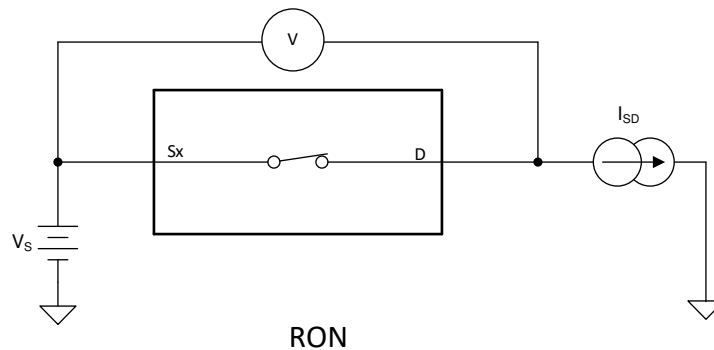

Figure 7-1. On-Resistance Measurement Setup
The on-resistance of a device is the ohmic resistance between the source (Sx) and drain (D) pins of the device. The on-resistance varies with input voltage and supply voltage. The symbol  $R_{ON}$  is used to denote on-resistance. Figure 7-1 shows the measurement setup used to measure  $R_{ON}$ . Voltage (V) and current ( $I_{SD}$ ) are measured using this setup, and  $R_{ON}$  is computed with  $R_{ON} = V / I_{SD}$ .